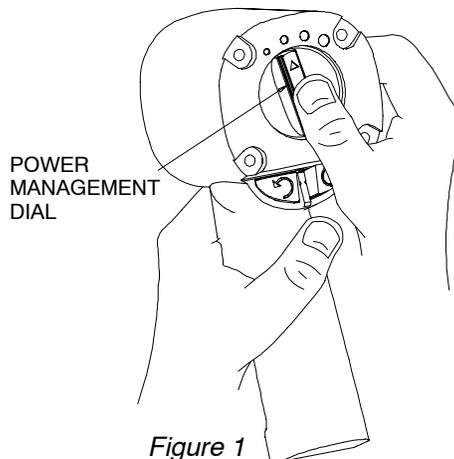

Figure 1
1. Remove the Motor Assembly from the Housing (19) by pushing on Power Management Dial (35) from the back of the Housing. Refer to Figure 1.